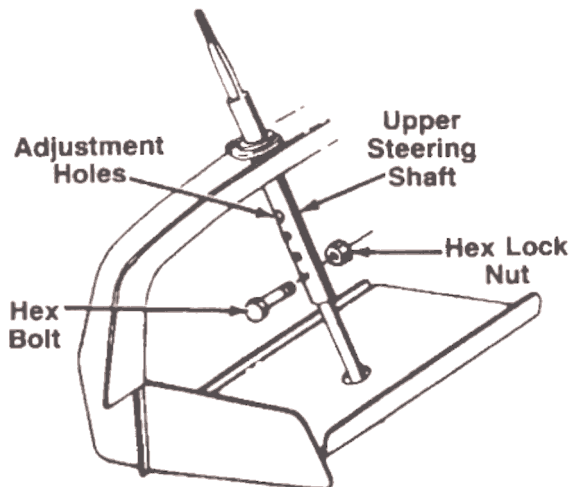

FIGURE 5.
2. If not already assembled, insert large end of the upper steering shaft through the hole in the dash panel, over the lower steering shaft. See figure 5. The four holes in the upper steering shaft provide four steering wheel heights. Select desired hole, and secure with hex bolt and hex lock nut.